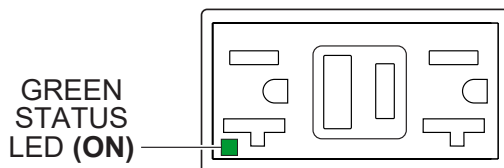

Figure 74. GFCI Receptacle (ON)
3. Verify that the **status LED** on the corresponding **GFCI receptacle** (Figure 74) is **ON (GREEN)**.